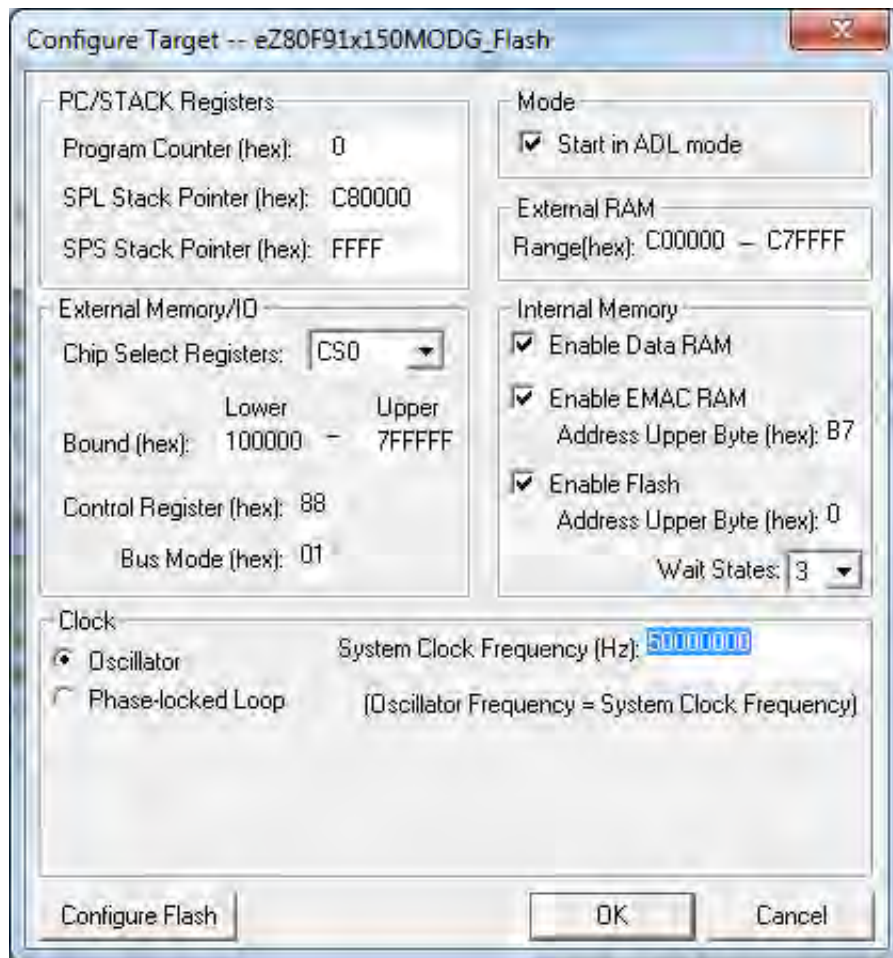

Figure 4. Flash and Copy to RAM Build Configuration: Default Settings
3. Click the **Setup** button. The Configure Target dialog will appear, as shown in Figure 4, which presents the default settings for the eZ80F91x150MODG_Flash ZTGT file. If you have not modified the contents of the eZ80F91x150MODG_Flash file, then you should see the values in Figure 4 after clicking the Setup button. Verify that your settings match the values shown in this figure.